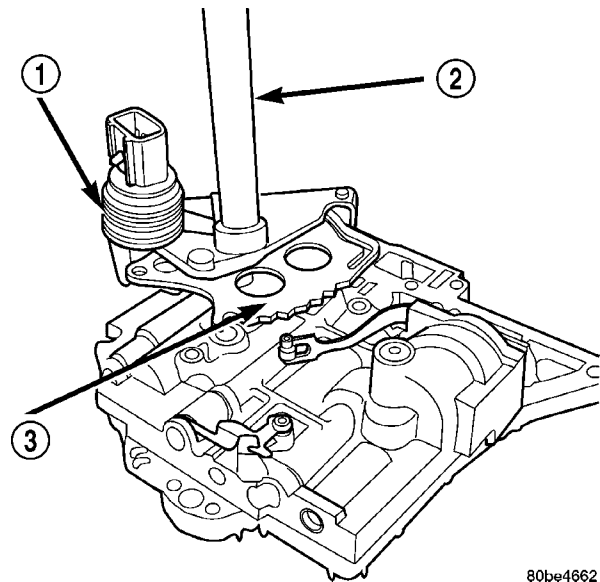

Fig. 345 Install Manual Shaft/Rooster Comb and Transmission Range Sensor
(14) Install Manual Shaft/Rooster Comb and Transmission Range Sensor (Fig. 345).